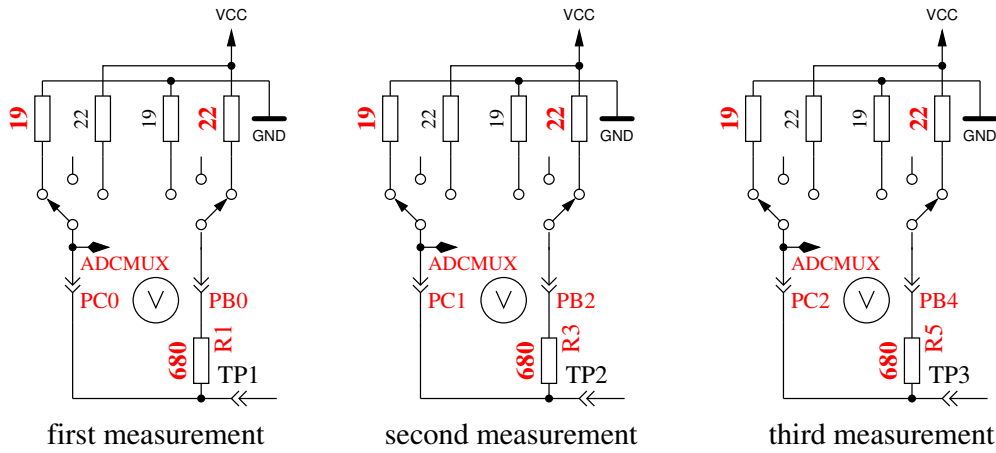

Figure 5.56. Measurement of internal resistance of Port C switched to GND
5. **This step tests the capability of GND (-) connected 470kΩ resistors (H) to pull the test pins to GND.** Row 1 shows the text “RH-”. Row 2 should display zero for all three pins.
6. **This step tests the capability of VCC (+) connected 470kΩ resistors (H) to pull the test pins to VCC (+).** Row 1 shows the text “RH+”. The results are shown als difference to VCC and should be near zero. Great differences from the best value for test 5 and 6 are errors such as isolation problem, flux material or damaged port.
8. **Measuring of internal resistance of pin output switched to the GND signal.** This test and the follwing tests will only be done, if the option AUTO\_CAL is selected. The internal resistance of the port C outputs switched to GND (-) are measured with the current of to VCC (+) switched 680Ω resistors, see Figure 5.56. Only the three pins of the ADC port are measured, the resistor port B (PB0,PB2 and PB4) can not be measured without hardware modification. Is is assumed that the port resistance of the different ports are nearly identical. The resistor value will be shown in the next test.